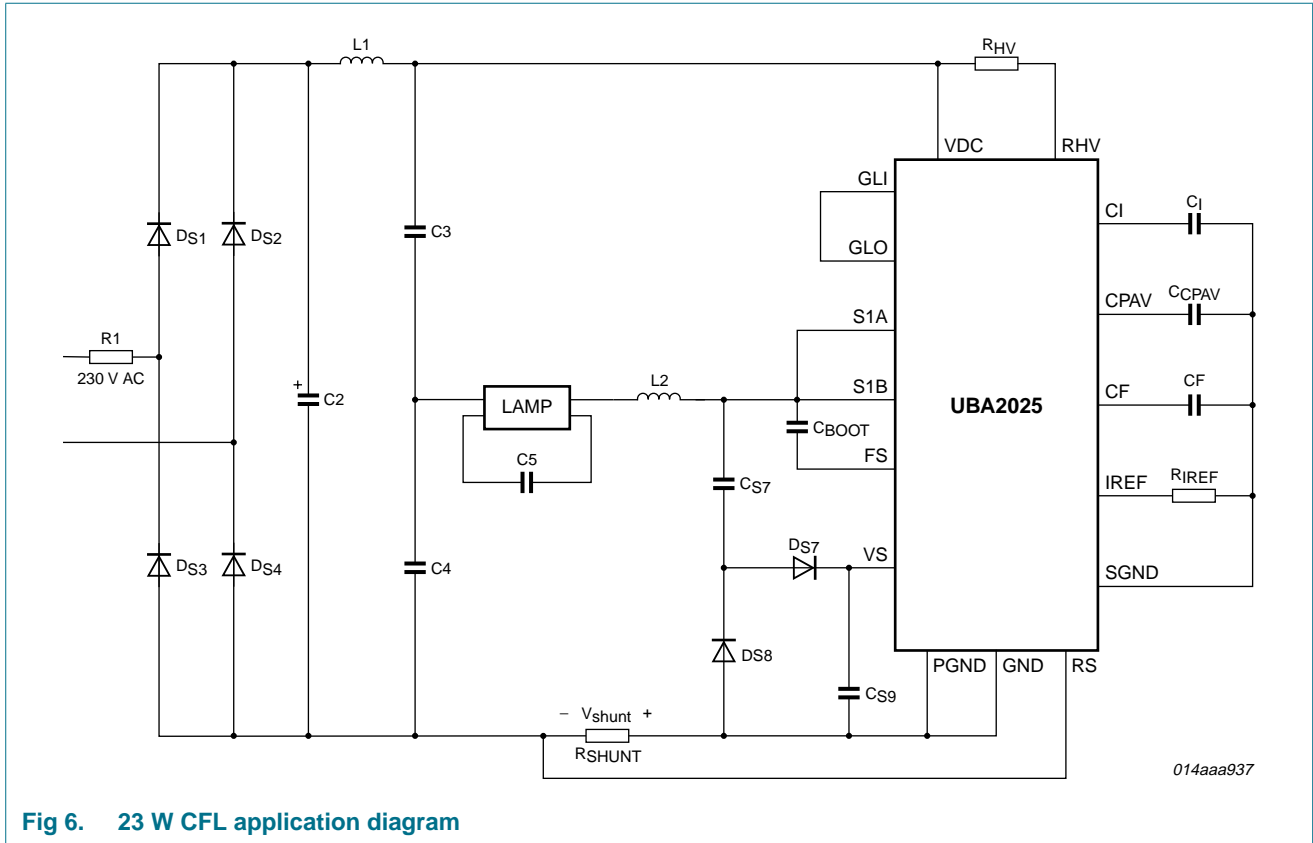

Fig 6. 23 W CFL application diagram
- R_{HV} = 560 KΩ (see Figure 6)